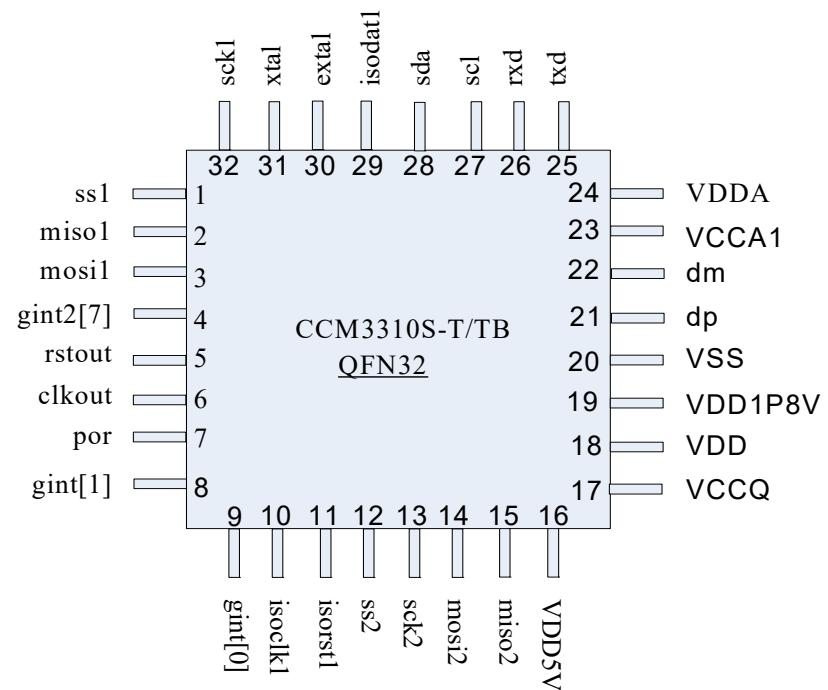

Figure 2-4 QFN32 Package
- **Figure 2-4** for QFN32 package